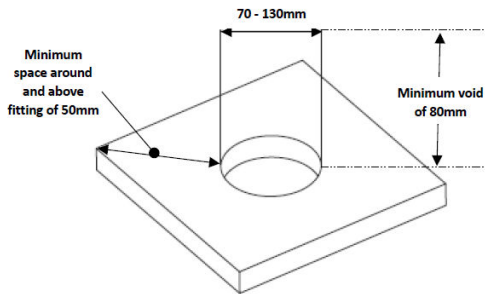

Fig. 1
- Cut a suitable hole in the mounting surface as per the cut-out details (see Fig. 1) ensuring not to infringe with any joists, gas / water pipes or electrical cables